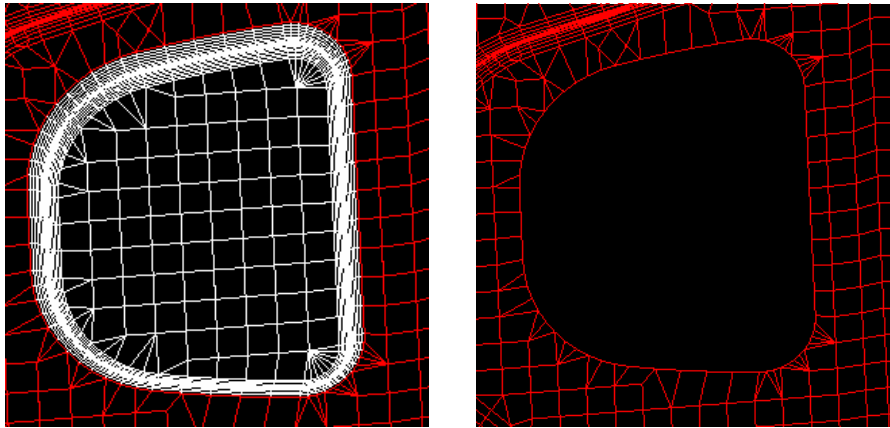

Figure 5.66 Delete elements
45. From the menu bar, select **Preprocess**→**Element**. Press  icon, following by using the **Multi-Point Region** function to select the highlighted elements in Figure 5.66